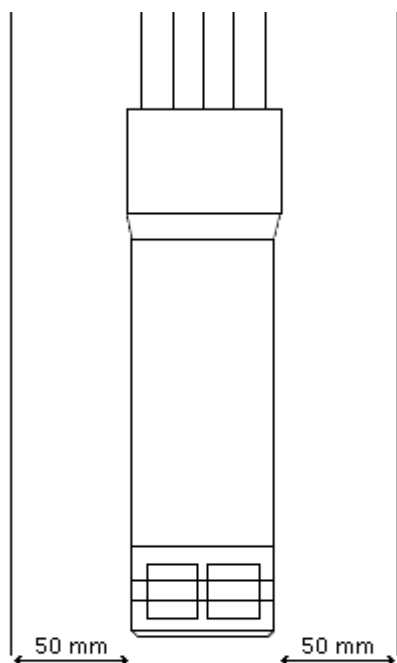

Figure 3.2 Required clear space
- The optic head of the probe has 50 mm of free space on all sides, see Figure 3.2.